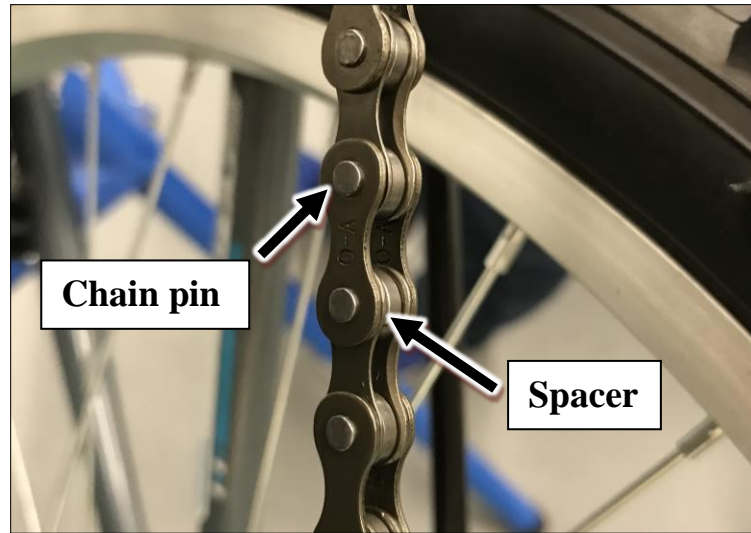

Figure 3: Components of a bike chain
7. Observe the mechanism of the chain and recognize the chain pin and spacer in **Figure 3**.